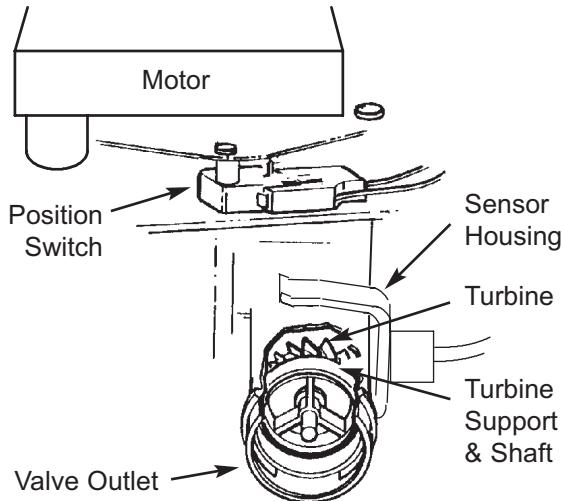

FIG. 47
**Turbine Operation:** If no water is flowing through the softener, the turbine indicator displays three zeros. When water is flowing, a 000 to 140 count repeats for each gallon (3.8 liters) of water passing through the turbine. To check for positive operation of the turbine if zeros are shown, open a nearby soft water faucet and observe the turbine count. If you don't get a reading in the display with faucet open, pull the sensor housing from the valve outlet port (see Fig. 47). Pass